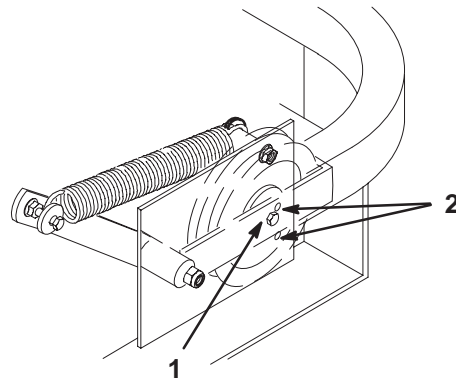

Figure 68
- Check belt tension. The center bolt of spring loaded idler must be between the two alignment holes in left support plate (Fig 68).
Check position of center bolt in a High Height of Cut. The center bolt must be at or above the lower adjustment hole (Fig 68).
8. Check belt tension again. The center bolt of spring loaded idler must be between the two alignment holes in left support plate (Fig 68). Adjust, if necessary, and tighten all hardware securely.